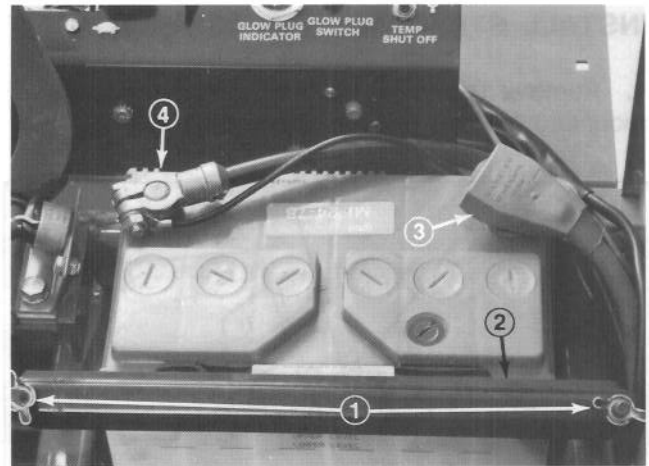

Figure 6
2. Remove two wing nuts and hold down strap that secures battery (Fig.6). Lift battery out of chassis. Keep wing nuts and hold down strap in safe place for later use.